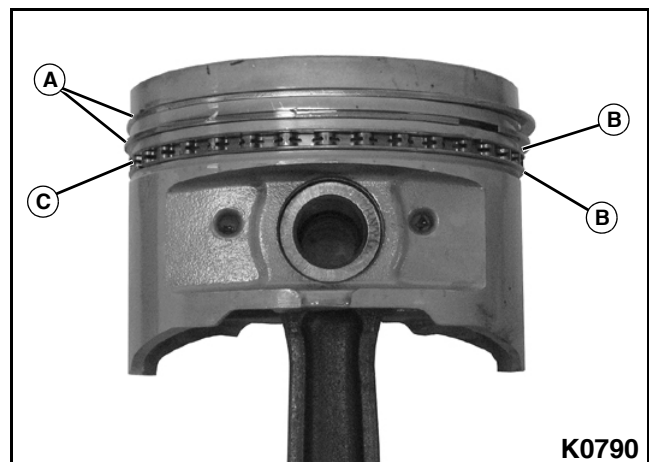

Figure 3-207
3. Remove two compression rings (A) from the piston using a piston ring expansion tool. **See Figure 3-207.**
4. Manually remove two side rails (B) and oil ring expander (C). **See Figure 3-207.**